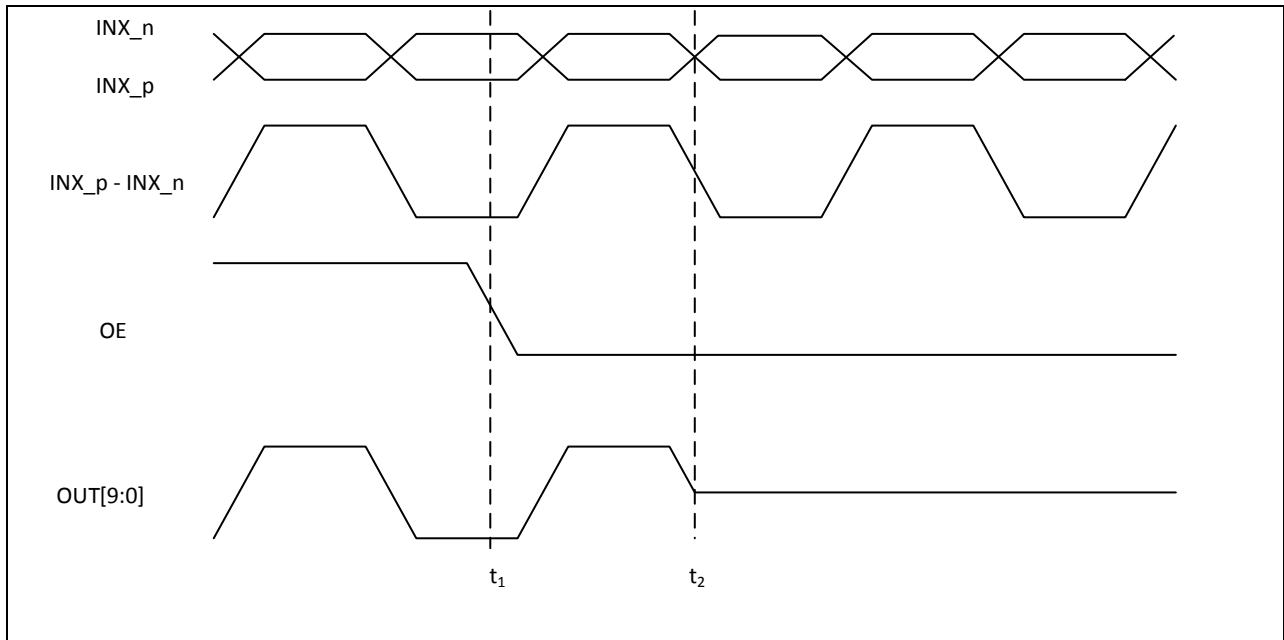

Figure 20. OE Output Disable
In this mode, ZL40240 is controlled via Output Enable (OE) and Input Select (SEL0/1) input pins. Output is disabled synchronously on the falling edge of the input (t_2) as shown in Figure 20.